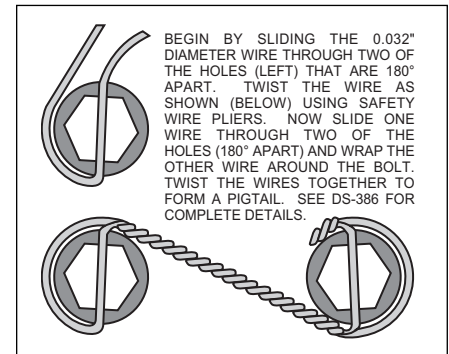

Figure 3. Safety Wire Diagram
- With the larger I.D. side of the rotor (3) facing away from the hat (4), bolt rotor (3) to hat (4) through the backside of the rotor using washers (5) and bolts (6). Torque bolts (6) to 85 in-lb. Safety wire bolts (6) using standard 0.032 inch diameter stainless steel safety wire as shown in Figure 3. Please refer to Wilwood's data sheet DS-386 (available at www.wilwood.org/ds386.pdf) for complete safety wire installation instructions. Slide the rotor/hat assembly onto the spindle. Install a couple of lug nuts (hand tighten) to keep the rotor/hat assembly in place while continuing with the installation.
- NOTE:** Please reference the caution statement at the beginning of the assembly instructions. With the bleed screws pointing up, mount the caliper (7) onto the caliper bracket (1) with the self locking hex nut (8), flat washer (9), through the top of the caliper and mounting stud (10) with flat washer (11) and spacer (12) positioned between caliper (7) and caliper mounting bracket (1). Finger tighten. View the rotor (3) through the top opening of the caliper (7). The rotor (3) should be aligned in the center of the caliper (7). If not, adjust the caliper (7) by using 0.035 inch thick shims (2) placed between the spindle assembly and the caliper mounting bracket (1). Finger tighten and recheck alignment. Lubricate caliper mounting studs and nuts with lightweight oil, reinstall the caliper, torque the caliper nuts to 30-35 ft-lb.
- Remove the bridge bolt from the caliper (7) and install the disc brake pads (13). Reinstall the caliper bridge bolt.